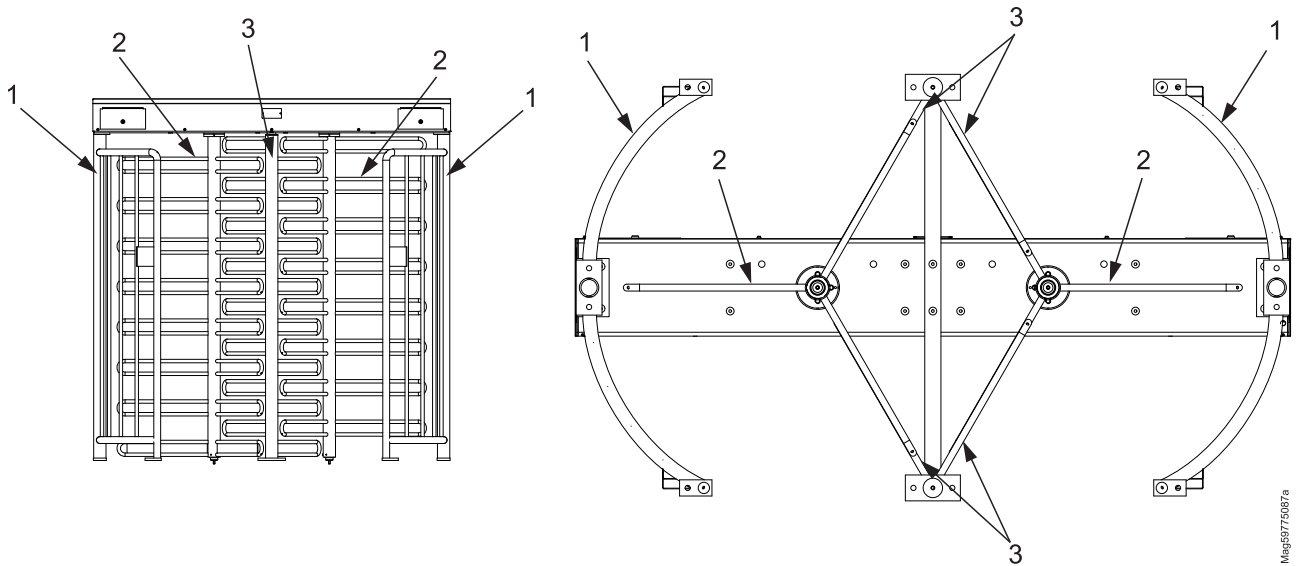

Fig. 26: Setting the full height turnstile to the "blocked" position
1. Set the centre column to the "blocked" position (see Page 39, Fig. 26).